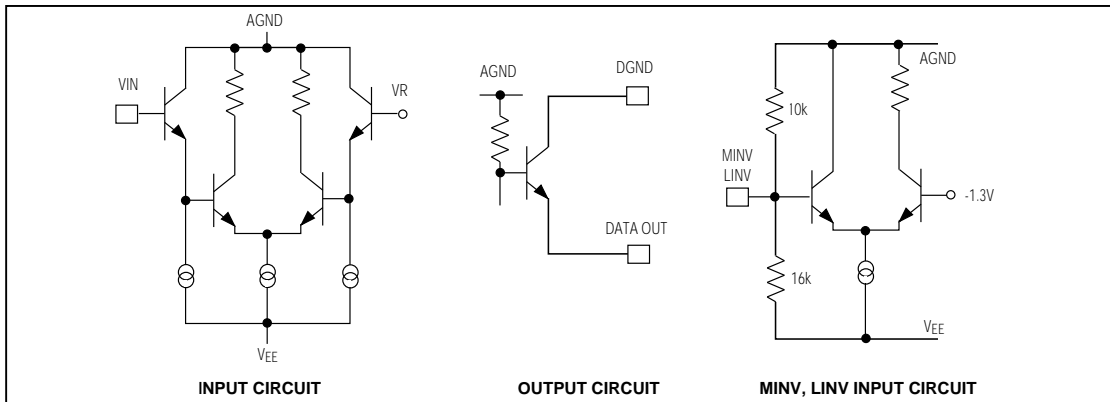

Figure 4. Subcircuit Schematics
There are two analog input pins that are tied to the same point internally. Either one may be used as an analog input sense and the other for input force. This is convenient for testing the source signal to see if there is sufficient drive capability. The pins can also be tied together and driven by the same source. The MAX1114 is superior to similar devices due to a preamplifier stage before the comparators (Figure 4). This makes the device easier to drive because it has constant capacitance and induces less slew-rate distortion. An optional input buffer may be used.
These are ECL-compatible digital controls for changing the output code from straight binary to two's complement, etc. (Table 1 and Figure 4). Both MINV and LINV are in the logic low (0) state when they are left open. The high state can be obtained by tying to AGND through a diode or $3.9\text{k}\Omega$ resistor.